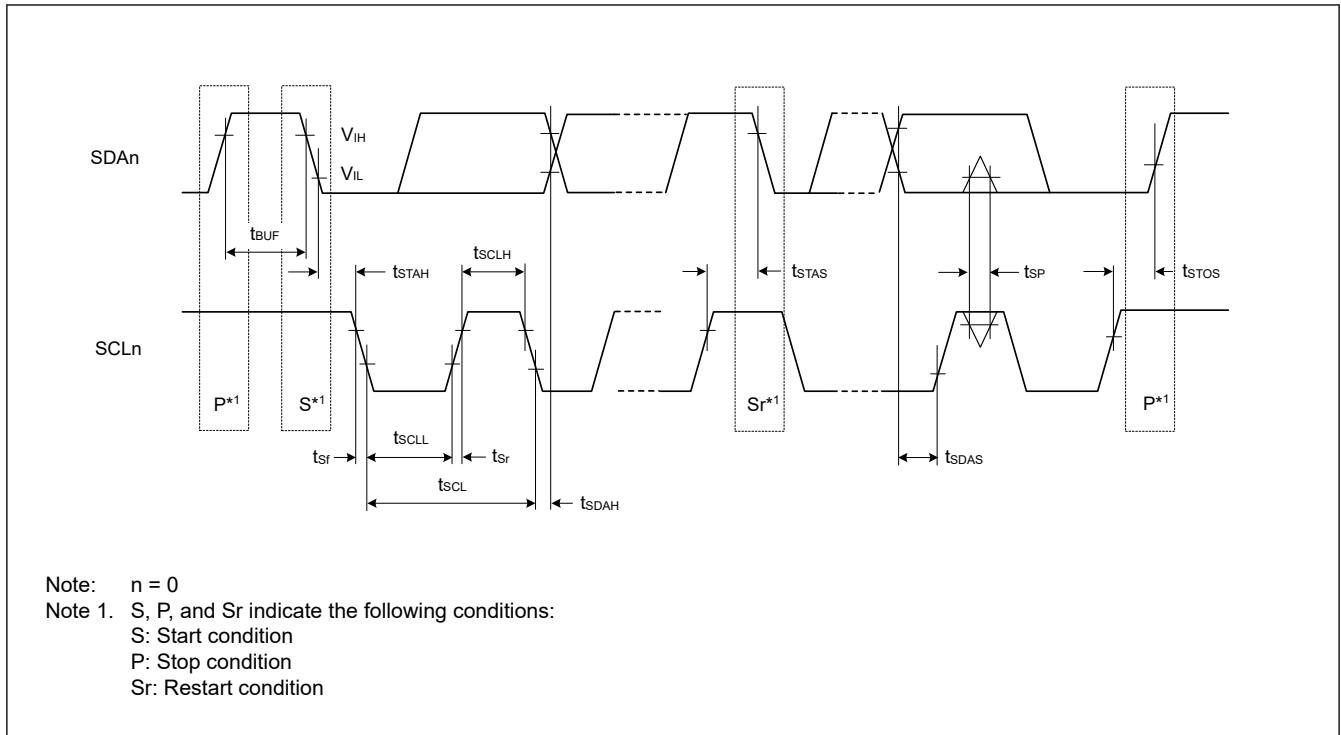

Figure 2.33 I²C bus interface input/output timing
| IIC (standard mode, SMBus) | SCL cycle time | t _{SCL} | 6 (40) × t _{IICcyc} + 4 × t _{Pcyc} + 1300 | — | ns | Figure 2.33 |
| IIC (Fast mode) | SCL cycle time | t _{SCL} | 6 (40) × t _{IICcyc} + 4 × t _{Pcyc} + 600 | — | ns | Figure 2.33 |
| IIC (Fast-mode+) | SCL cycle time | t_{SCL} | $6 (40) \times t_{IICcyc} + 4 \times t_{Pcyc} + 240$ | — | ns | Figure 2.33 |
| IIC(HS mode) | SCL cycle time | t _{SCL} | 330 (+ 10 × t _{IICcyc}) when PCLKD = 64 MHz 390 (+ 10 × t _{IICcyc}) when PCLKD = 48 MHz | — | 500 (+ 10 × t _{IICcyc}) when PCLKD = 64 MHz *2 560 (+ 10 × t _{IICcyc}) when PCLKD = 48 MHz | — | ns | Figure 2.33 |